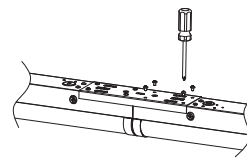

Figure 10
Step2. Align the other lamp to the bracket and lock the screws (Figure 10)